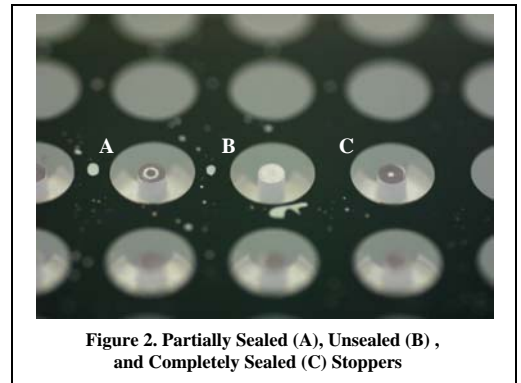

Figure 2. Partially Sealed (A), Unsealed (B), and Completely Sealed (C) Stoppers
2. Visually inspect the bottom of the populated 96-well plate to ensure that the Oris™ Cell Seeding Stoppers are firmly sealed against the bottom of the plate. To inspect the stoppers, turn the plate over and examine the stoppers for sealing (see Figure 2). If sealing is not observed, return the plate to the upright position and use a sterile instrument to gently push the stopper back into the well until sealing is observed.